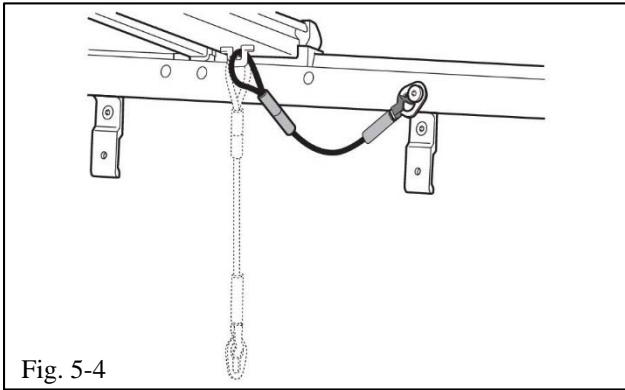

Fig. 5-4
- (d) Attach the safety cables to the underbody rails on both the driver and passenger sides (Fig. 5-4).